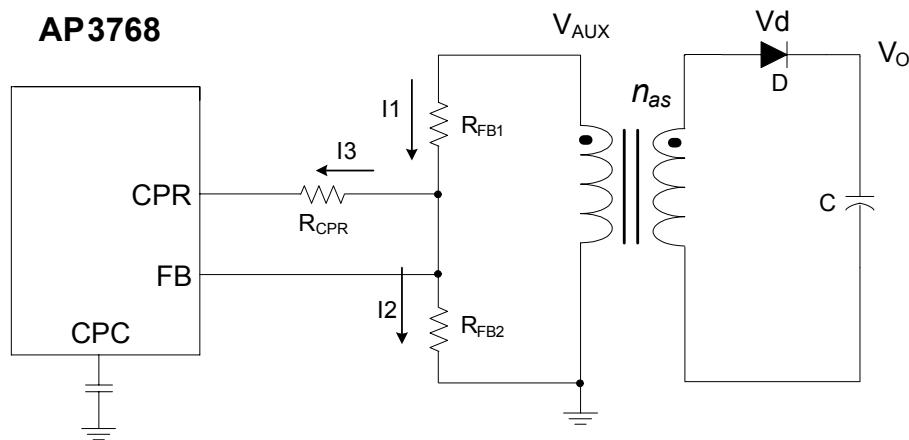

Figure 3. Output Cable Compensation Circuit
The external output cable voltage drop compensation circuitry of AP3768 is shown in Figure 3. The AP3768 senses the auxiliary winding feedback voltage at FB pin and operates in constant-voltage (CV) mode to regulate the output voltage. In CV mode, FB pin voltage V_{FB} is a constant of 4.0V.
From the resistor network shown in figure 3, the current through R_{FB1} is equal to the sum of current through R_{FB2} and R_{CPR} :
Because of the relation between V_O and V_{AUX} shown in figure 3, the output voltage can be given by: